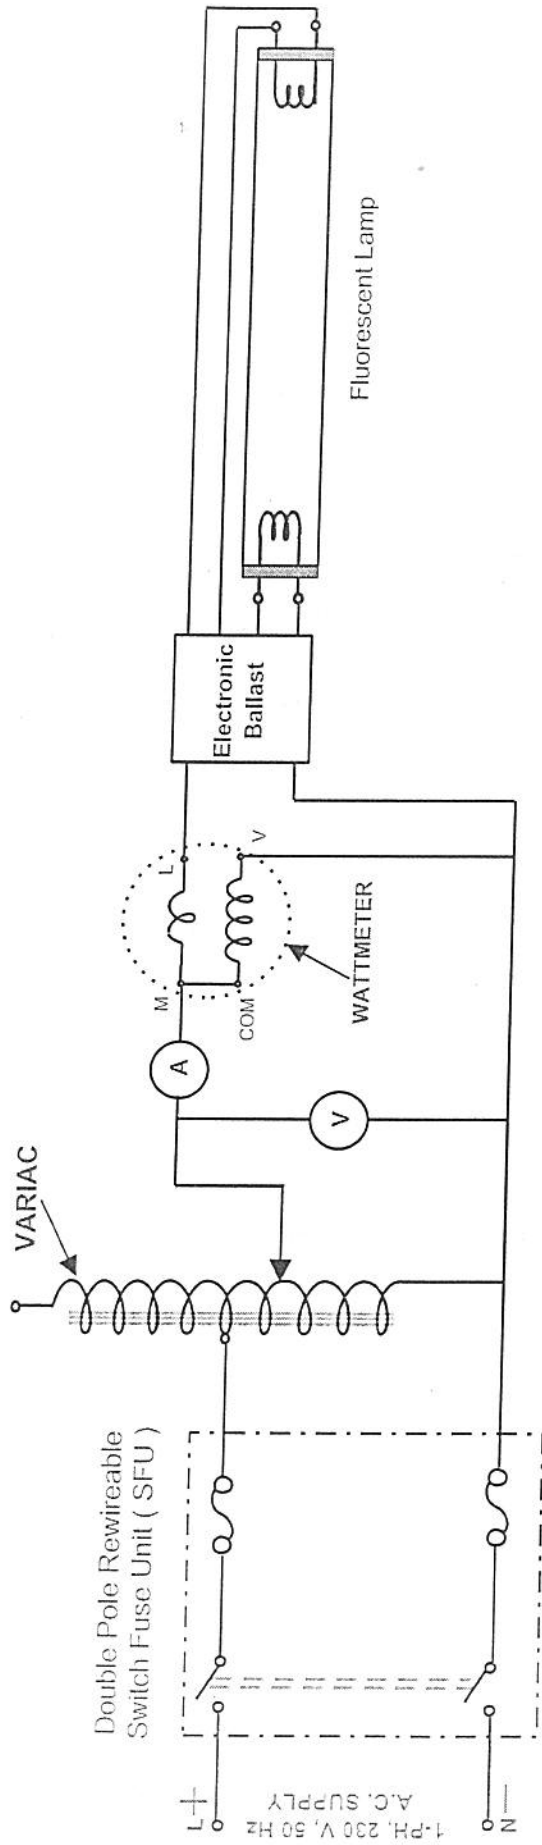

Fig. 6.3 Circuit Diagram For Determination Of Lamp Characteristic With Electronic Ballast (Fluorescent Lamp)
7. Repeat each of the above steps for Aluminum choke, Copper choke and Electronic choke as shown in Fig.6.3.